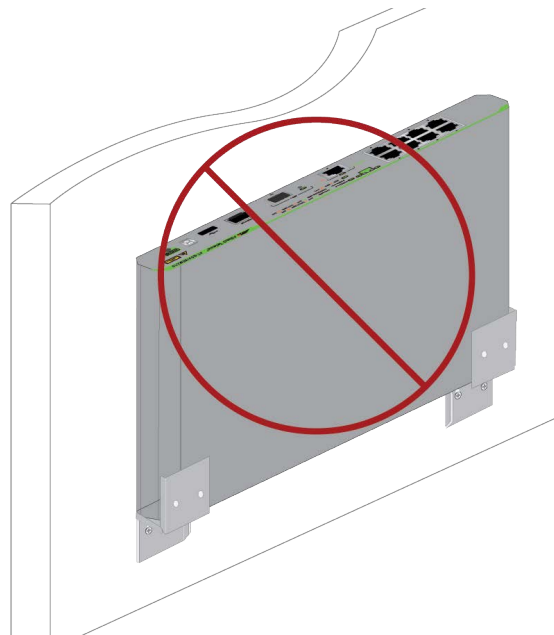

Figure 3. Wrong Orientation of the Brackets to a Switch
- Figure 3 shows a wrong orientation of the brackets to a switch. When you install a switch horizontally, the brackets must be on the sides of the switch, instead of the top and bottom.